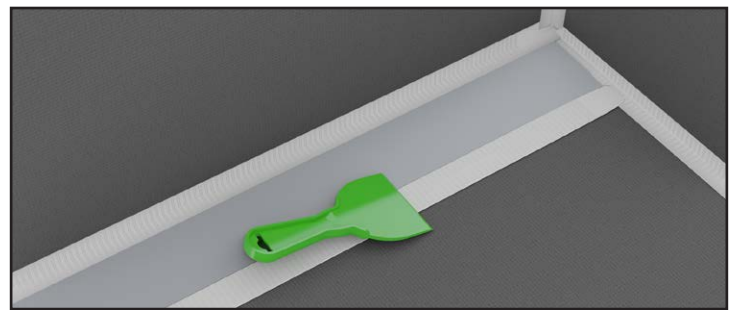

Fig. 25
12. To finish the joint and seam connections, apply a final bead of ½" joint sealant on all joints and seams including the seam between the pan and drain body, covering all screws. (fig. 25). Use a HYDRO-BLOK corner putty knife for all 90 degree joints and the standard putty knife for all flat seams. Ensure there is at least 1" of joint sealant on either side of any joint or seam. Excess sealant can be used to cover any Screws/Washers still exposed.